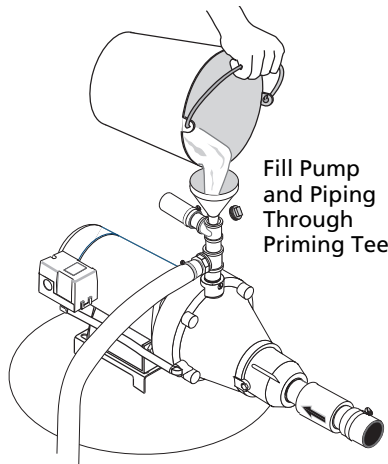

Figure 12 – Fill Pump
1. Remove the priming plug from the pump and fill the pump (See Figure 12), fill all piping between the pump and the well, and make sure that all piping in the well is full. If you have also installed a priming tee in the suction piping, remove the plug from the tee and fill the suction piping.